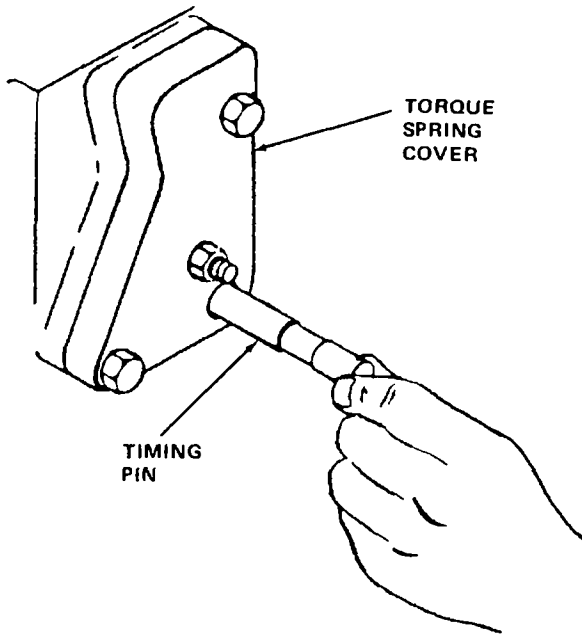

Figure 7-8. Use of Timing Pin
c. Install timing pin (see figure 7-8) to keep the injection pump camshaft from turning during disassembly and reassembly.
c. Install the fuel injection pump housing (7) onto the engine and secure with nuts (5).
d. Install bolt (1) and washer (2) which secure the drive gear (6). Torque to 110 +/-5 foot-pounds (149.2 +/-6.8 Newton-meters).
(1) Remove timing pin (see figure 7-8).